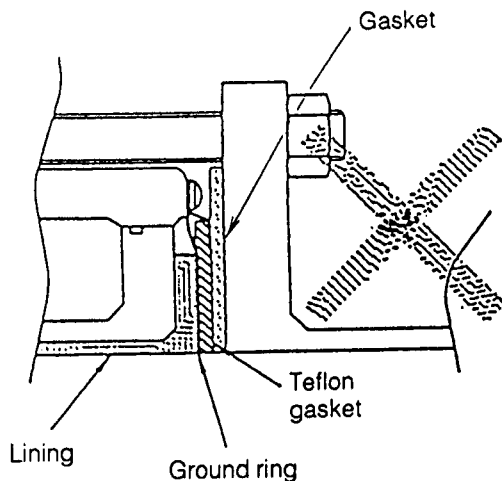

Figure 5-14. Incorrect Installation
- 3)-2 A Teflon gasket is supplied attached to the ground ring when the material of the ring is not stainless steel. Don't use any additional gasket for installation. Fluid may leak if an additional gasket is attached onto the supplied Teflon gasket (see Figure 5-14).